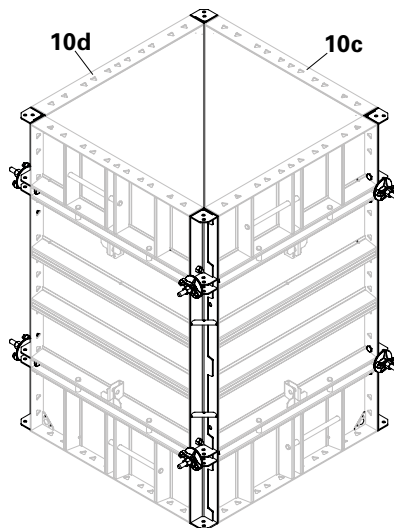

Fig. A4.17
3. Repeat the steps 1 and 2 to complete the setup. (Fig. A4.17)